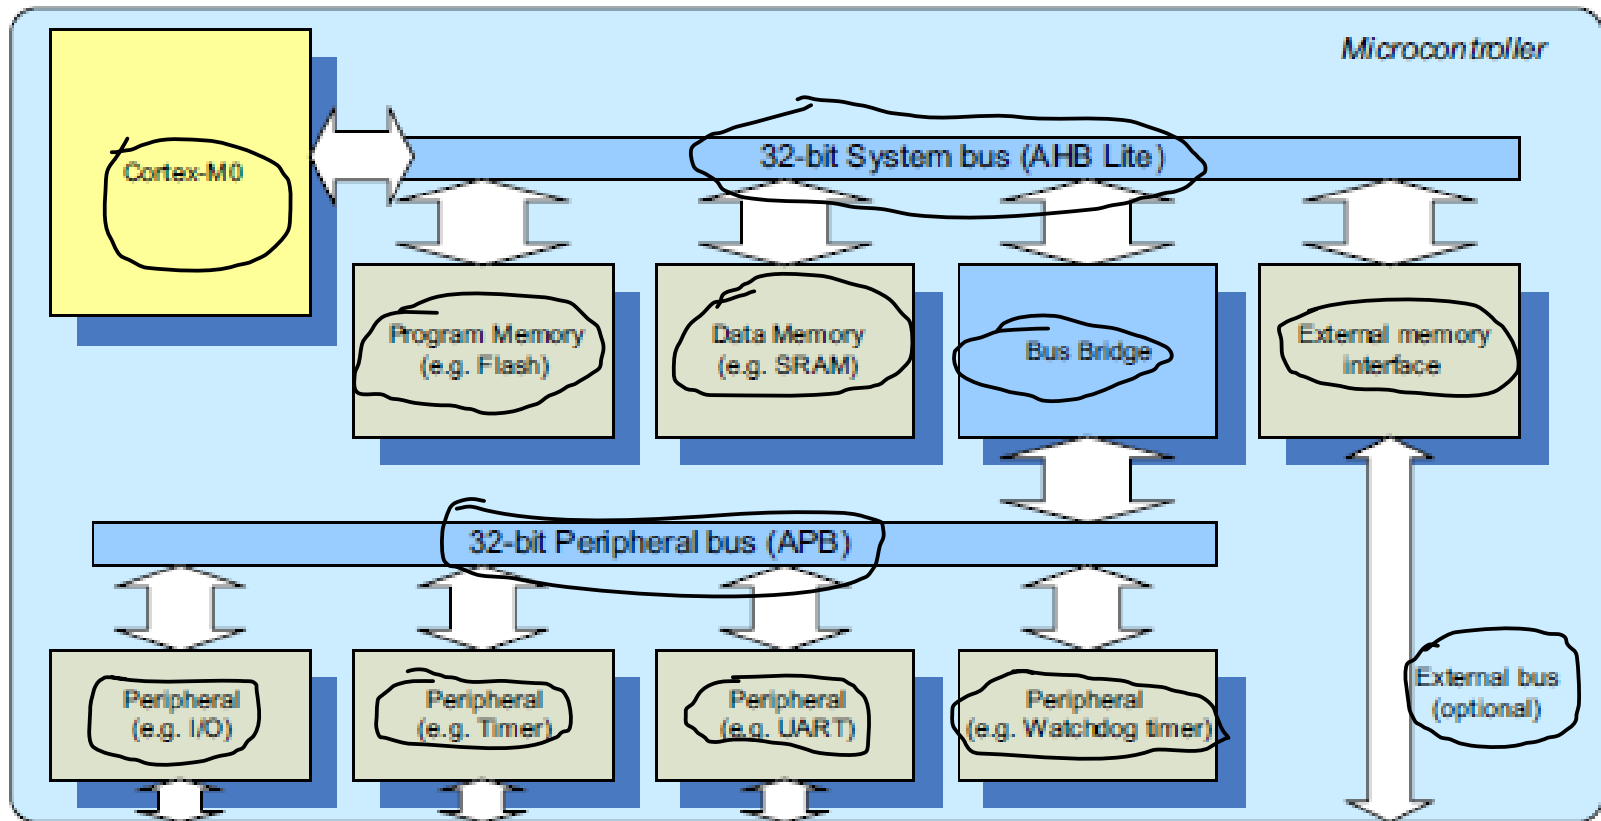

Figure 7.1:
- The **data path on the APB is also 32-bit**, but the **address lines are often less than 32-bit** as the peripheral address space is **relatively small** (Figure 7.1).